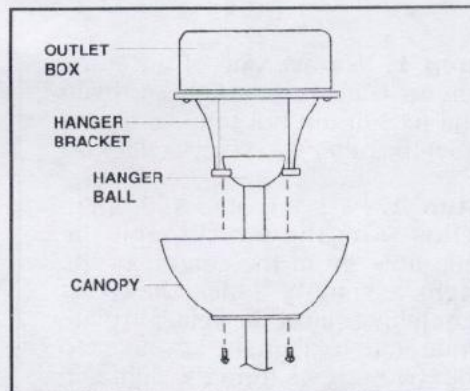

FIG. 15
**Step 2.** Slide canopy up to ceiling. Rotate canopy so that the screw holes are aligned and secure with the two screws provided on hanger bracket. (Fig. 15)